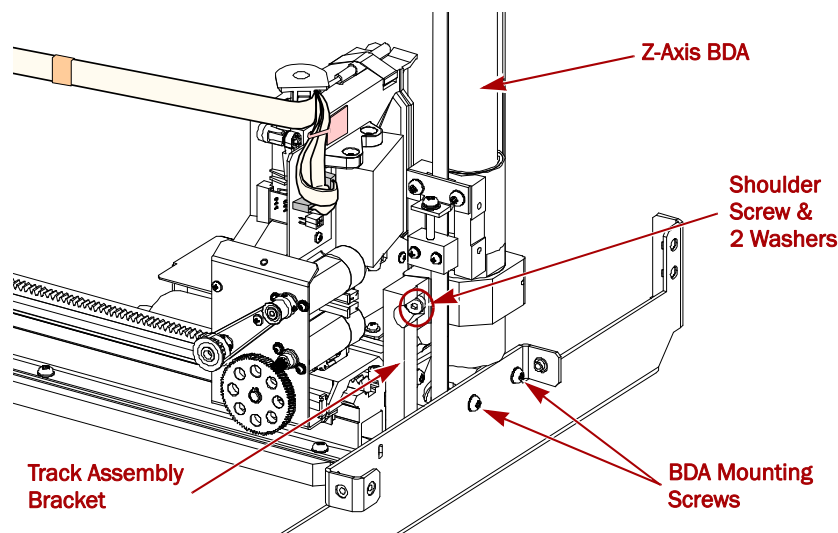

Figure 2-5: Location of the 1/8" Hex Shoulder Screw
- c. Using the 1/8-inch hex key and the new screw and washers, reattach the **track assembly bracket** to the BDA (Figure 2-5).